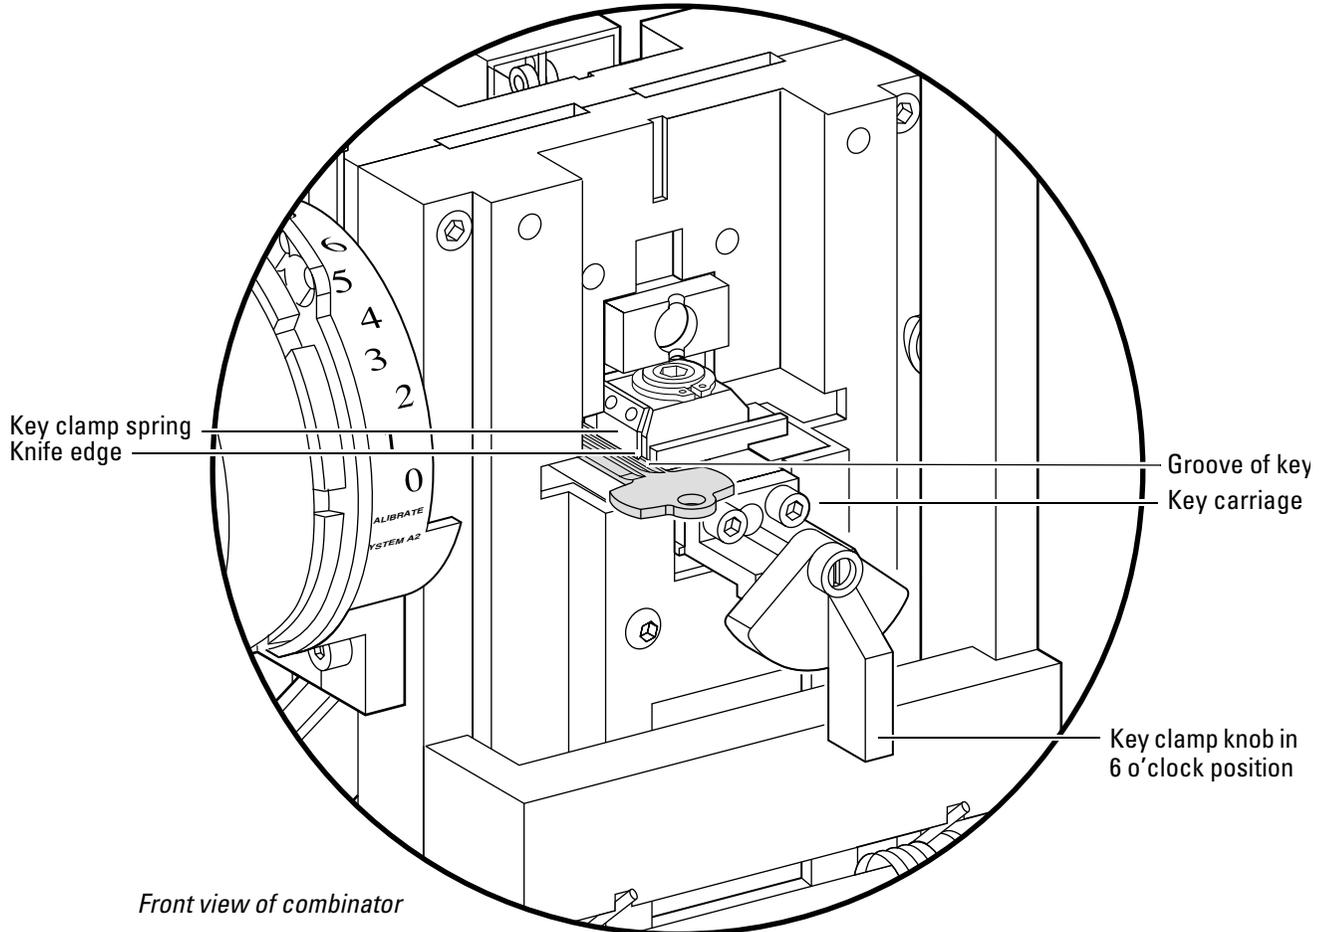

Figure 3.3 Key in the key clamp spring
3. With the curved edge of the key blank against the locating surface, slide the key blank into the key opening. Make sure that the knife edge of the key clamp spring fits into the groove of the key. See Figure 3.3.
The key clamp knob hangs loosely in the six o'clock position, as shown in Figure 3.3